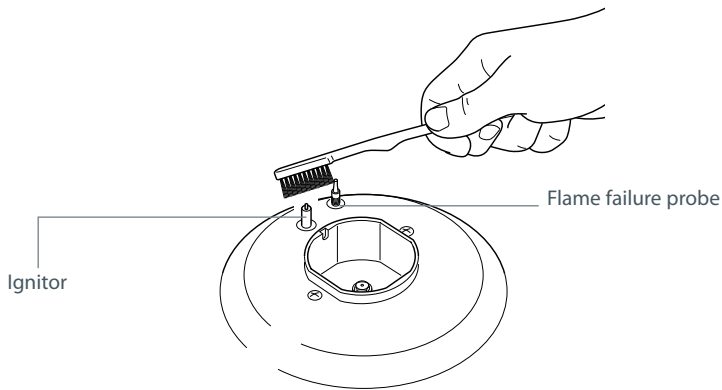

Fig.15 Cleaning the ignitor and probe
The burners have a flame failure probe as well as an ignitor (see Fig 15). The flame failure probe cuts off the gas supply to the burner if the flame is blown out.
- the ignitors are sparking. If the ignitors are not sparking, they may be dirty or wet. Clean them with a toothbrush and methylated spirits, as shown in Fig. 15.